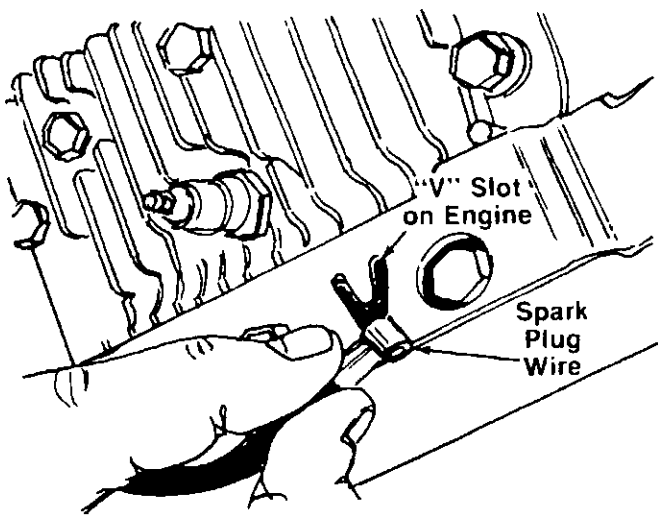

FIGURE 17.
20. To check the adjustment, disconnect the spark plug wire from spark plug to prevent accidental starting. Secure end of spark plug wire in the "V" slot on the engine. See figure 17. With the clutch grip released (neutral position), pull starter cord several times. **The tines should not turn.** If they do, adjust the hex nuts at the cable support bracket. Check again for correct adjustment.